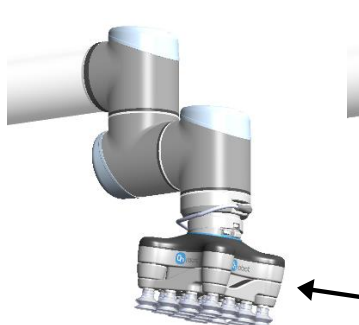

Figure 1.2
- Click on VG10 (See Figure 1.2 and 1.3 below)